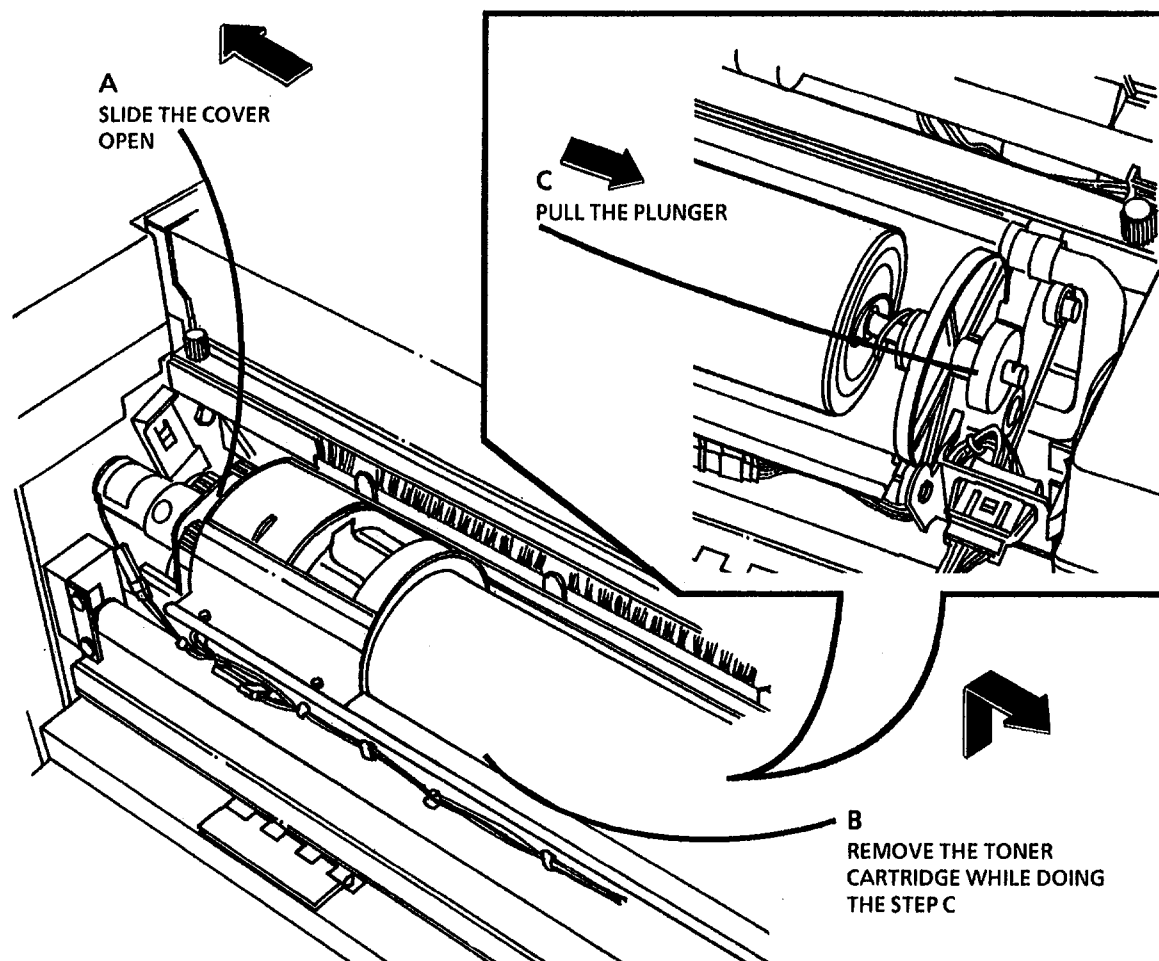

Figure 6. Remove the Toner Cartridge
4. (Figure 6): Remove the Toner Cartridge.